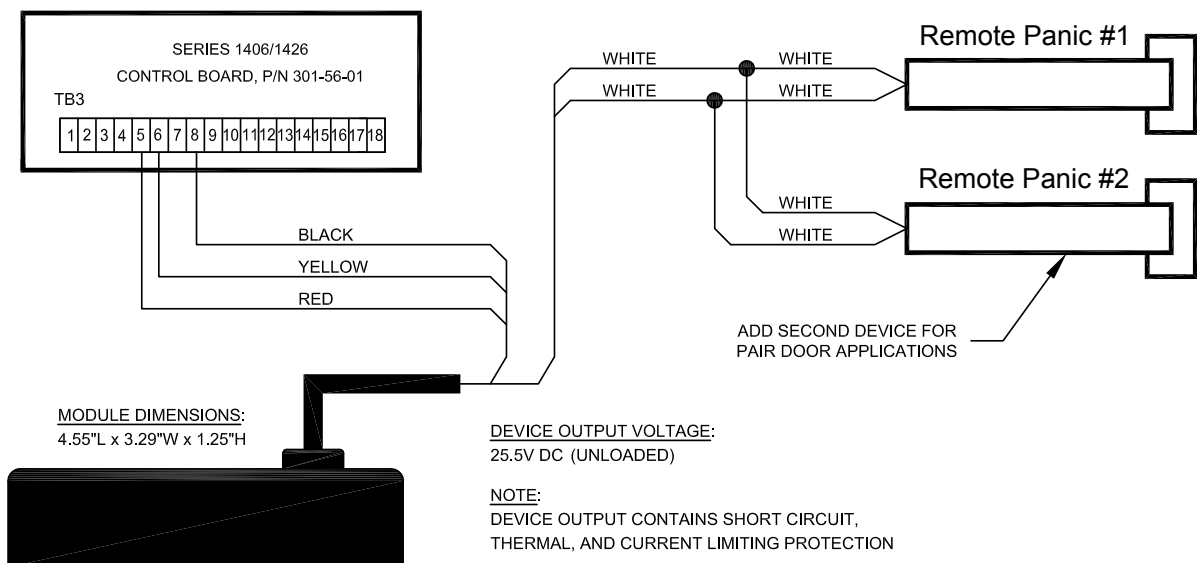

FIG. 25
**\*\*Important:** If the upper latch returns to the open position with the push bar being partially depressed, or if the upper latch does not go to the open position when the push bar is fully depressed, repeat the adjustment steps on page 17. The upper and lower latch might need to be adjusted again. **(Fig. 25)**